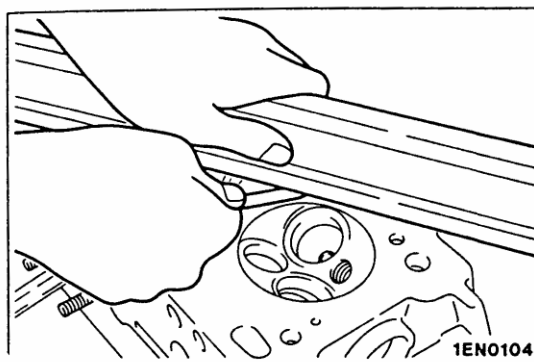

Fig.4-78
- (1) Before cleaning the cylinder head, check it for water leaks, gas leaks, cracks, and other damage.
- (2) Remove all oil, waterv scale, sealant and carbon.after cleaning the oil passages, blow air through them to verify that they are not blocked.
- (3) Check for distortion in the cylinder head gasket surface using a straight limit, grind the gasket surface to specification, see Fig.4-78.